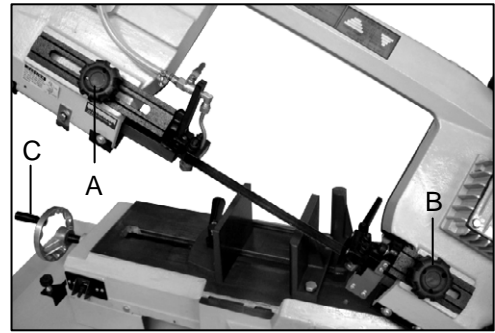
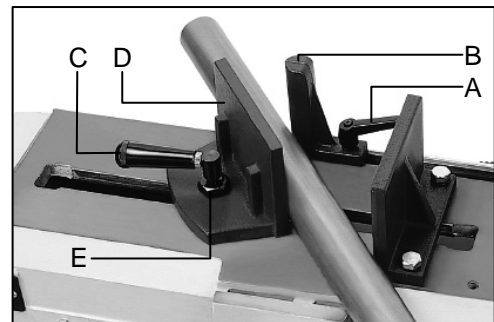

Fig. 6
Fig. 7
2. Loosen knobs (A and B, Fig. 6). Slide blade guide assemblies as close as possible to the material with interfering with the cut.
1. Open the vise. Lift handle (C, Fig. 7) and move the movable vise-jaw (D, Fig. 7) toward the vise hand wheel (C, Fig. 6).
3. Quickly approach the jaw to the work-piece. Lift the handle (C, Fig. 7) and approach movable vise-jaw (D, Fig. 7) to the work-piece. Lower handle (C, Fig. 7) and adjust movable vise-jaw (D, Fig.7) back and forth until the jaw locks* in place.
4. Clamp the work-piece. Turn hand wheel (C, Fig. 6) to approach and clamp the work piece.
- * Use the handle (C, Fig. 7) for large vise movements.
- * Use the hand wheel (C, Fig. 6) for small vise movements and repeat clamping operations for similar size materials.
4. Open the vise. Lift handle (C, Fig. 7) and move the movable vise-jaw (D, Fig. 7) toward the vise hand wheel (C, Fig. 6).
6. Release the movable vise-jaw. Loosen the hollow hex head bolt (E, Fig.7). Rotate the movable vise-jaw relative to the cutting angle.
7. Set the vise-jaw angle. Lift handle (C, Fig. 7) and Slide the movable vise-jaw toward the work-piece until the matching angle is achieved.
8. Secure the vise-jaw. Release the handle (C, Fig. 7) and tighten down the hollow hex head bolt (E, Fig. 7).
9. Securely clamp work-piece. Slide the movable vise-jaw (D, Fig.7) back and forth until the jaw locks in place. Turn the vise hand wheel to clamp.